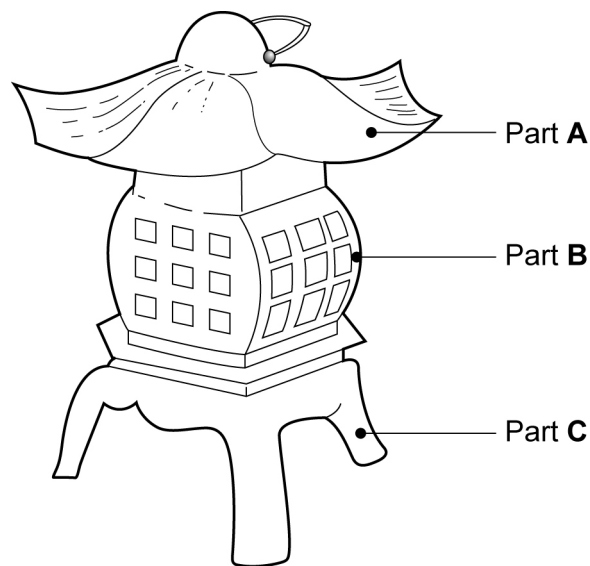

Fig. 6
- 6 Lighting is often required in garden situations. Fig. 6 shows a reproduction Japanese lantern which takes its style from traditional garden and temple lamps used 500 years ago. The lantern is made in three separate parts; each part is made from a ferrous metal. Light shines through the square holes.